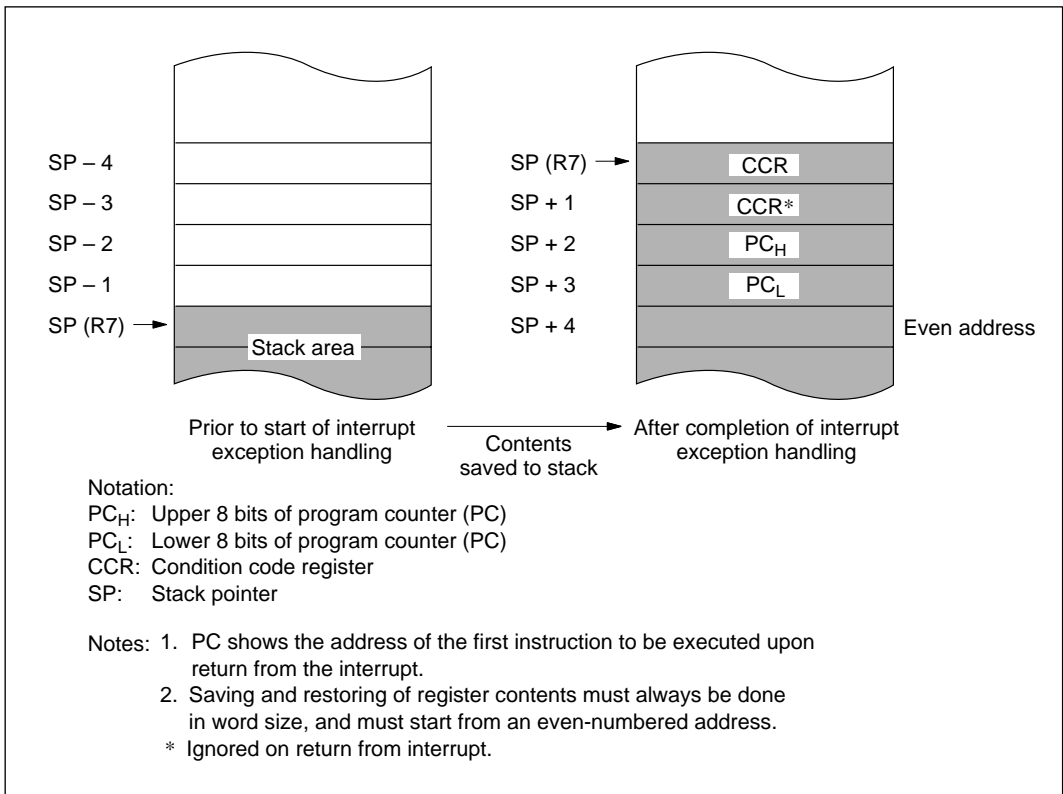

Figure 3-4 Stack State after Completion of Interrupt Exception Handling
5. If the interrupt is accepted, after processing of the current instruction is completed, both PC and CCR are pushed onto the stack. The state of the stack at this time is shown in figure 3-4. The PC value pushed onto the stack is the address of the first instruction to be executed upon return from interrupt handling.